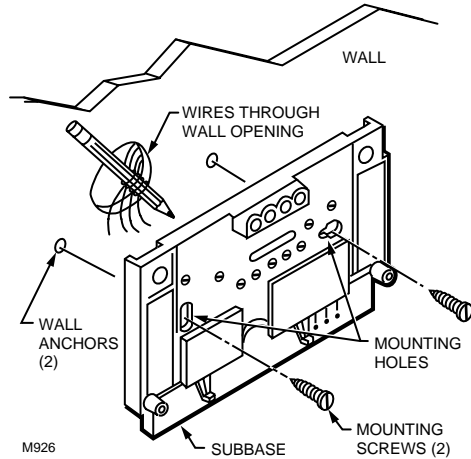

Fig. 5. Installing Q674 Subbase on wall.
**NOTE:** For a wall installation, hold subbase in position and mark holes for anchors. See Fig. 5. Wall anchors must be obtained from local hardware store. Be careful that the wires do not fall back into the wall opening. Set aside subbase. Drill four 3/16 in. (4.8 mm) holes and gently tap anchors into the holes until flush with the wall.